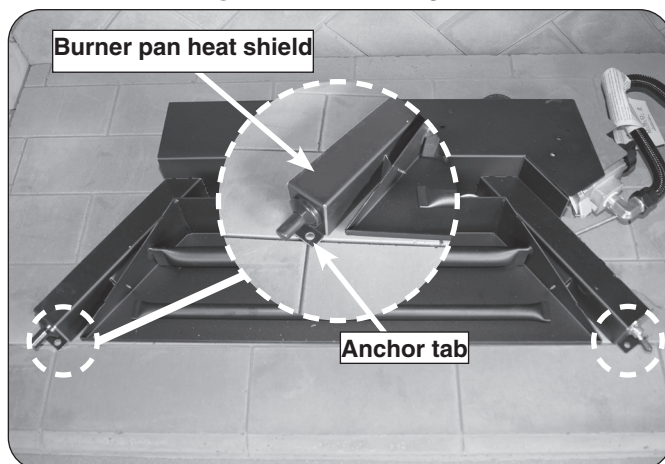

Fig. 19-4 Secure burner to floor
3. The burner system must be secured to the fireplace floor. The unit has two anchoring tabs located at the front of the burner pan heat shield. Using the appropriate hardware for your fireplace construction (not included), secure the burner system into the fireplace floor (see Fig. 19-4).